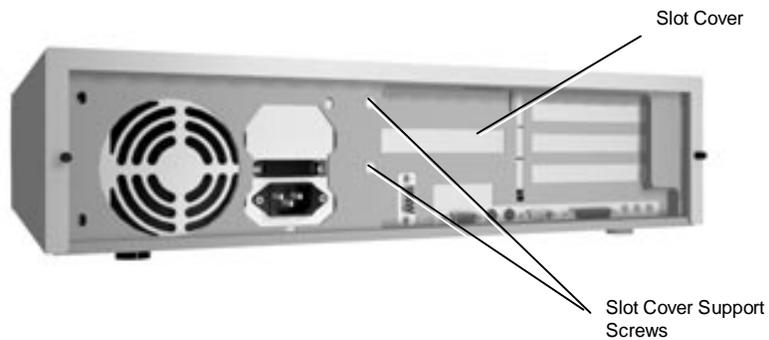

Figure 3-6 Removing the Slot Cover Support Screws
3. Remove the two screws that secure the slot cover support and expansion slot cover to the rear of the system (see Figure 3-6).